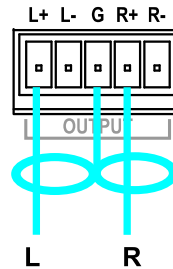

Figure 9: Connecting an Unbalanced Stereo Audio Output
- An unbalanced stereo audio output, see *Figure 9*